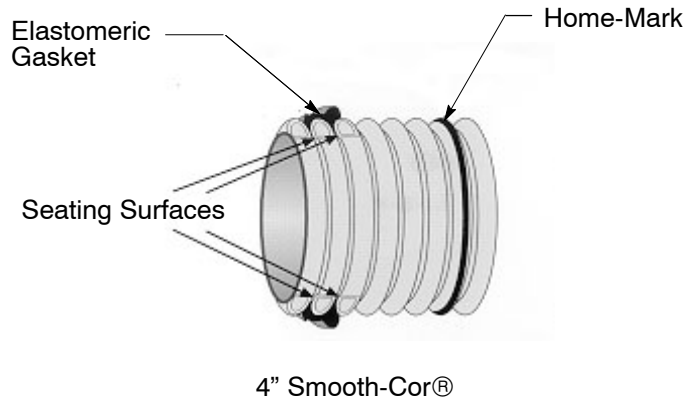

Figure 29
2. Place the gasket over the newly cut and cleaned end, making certain to seat the gasket on the second corrugation for 4" conduit. The higher ridge of the elastomeric seal is positioned toward the body of the conduit and the lower ridge toward the end of the conduit. Using a felt marker, place a home-mark on the conduit to achieve proper coupling. When using 4" conduit, place the home-mark on the seventh corrugation. Repeat steps 2-5 as shown on Page 13 and 14 to complete coupling. See Figure 29 below.